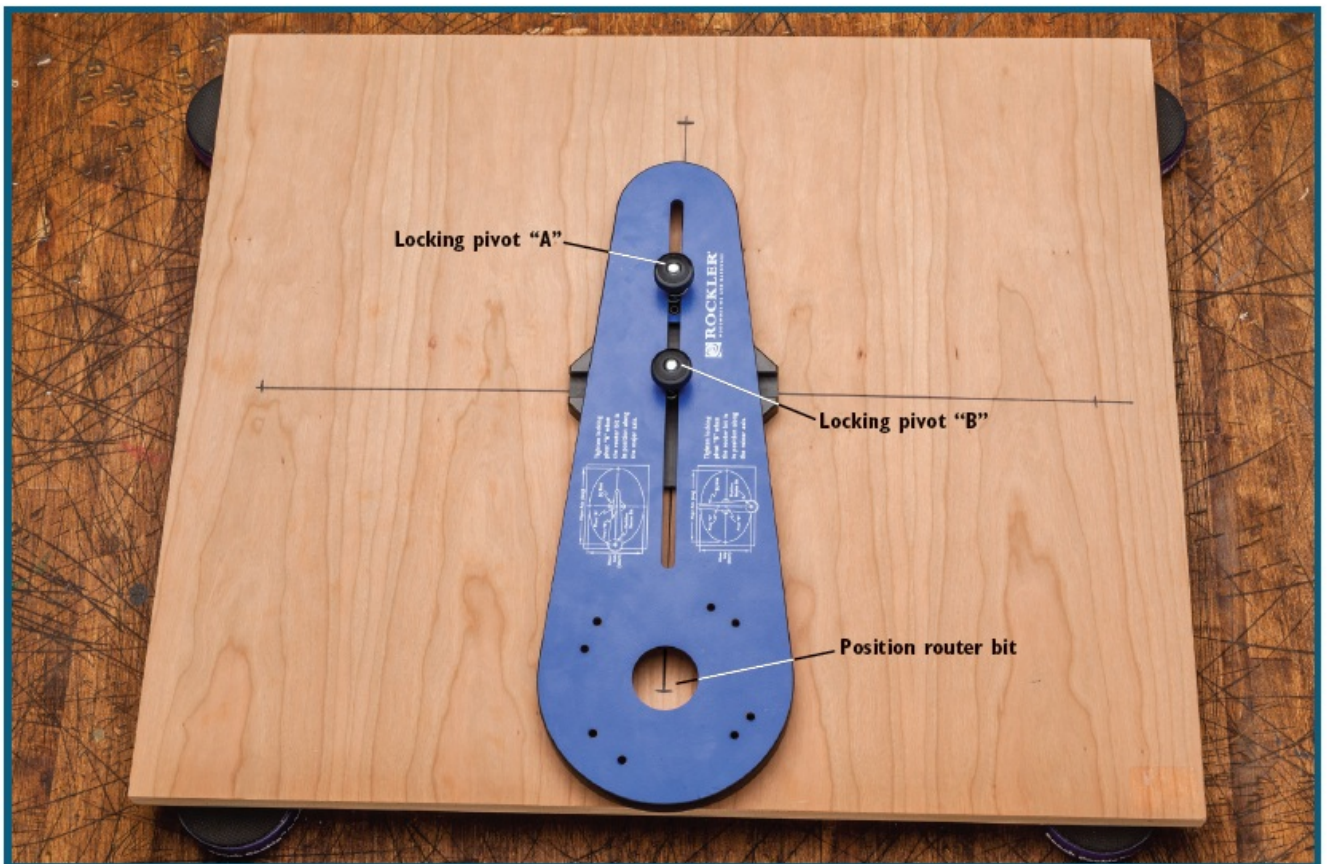

Fig. 5 - Router removed for clarity
6. Rotate the Jig Arm (1) so it's aligned with the minor axis, and adjust it in or out until the bit is positioned as desired to make the cut. Tighten the Locking Pivot on Dovetail Key B. Fig. 5.